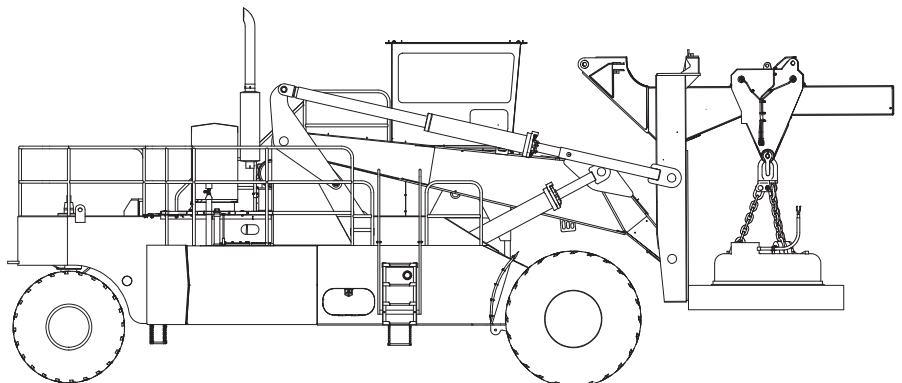

Fig. 5-7
12. Use the trolley controls to move the load back so that it is resting against the carriage face. See Fig 5-7.